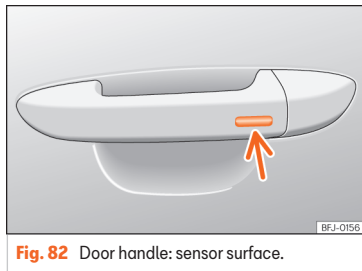

Fig. 82 Door handle: sensor surface.
- **OR:** using the Keyless Access system (only locking): Press and hold the locking sensor surface  Fig. 82 (arrow) on the door handle for several seconds to close the windows and the sunroof. If you release the sensor surface, the closing movement stops.
Press and hold the locking sensor surface **>>> Fig. 82** (arrow) on the door handle to close the sunroof. If you release the sensor surface, the closing movement stops.